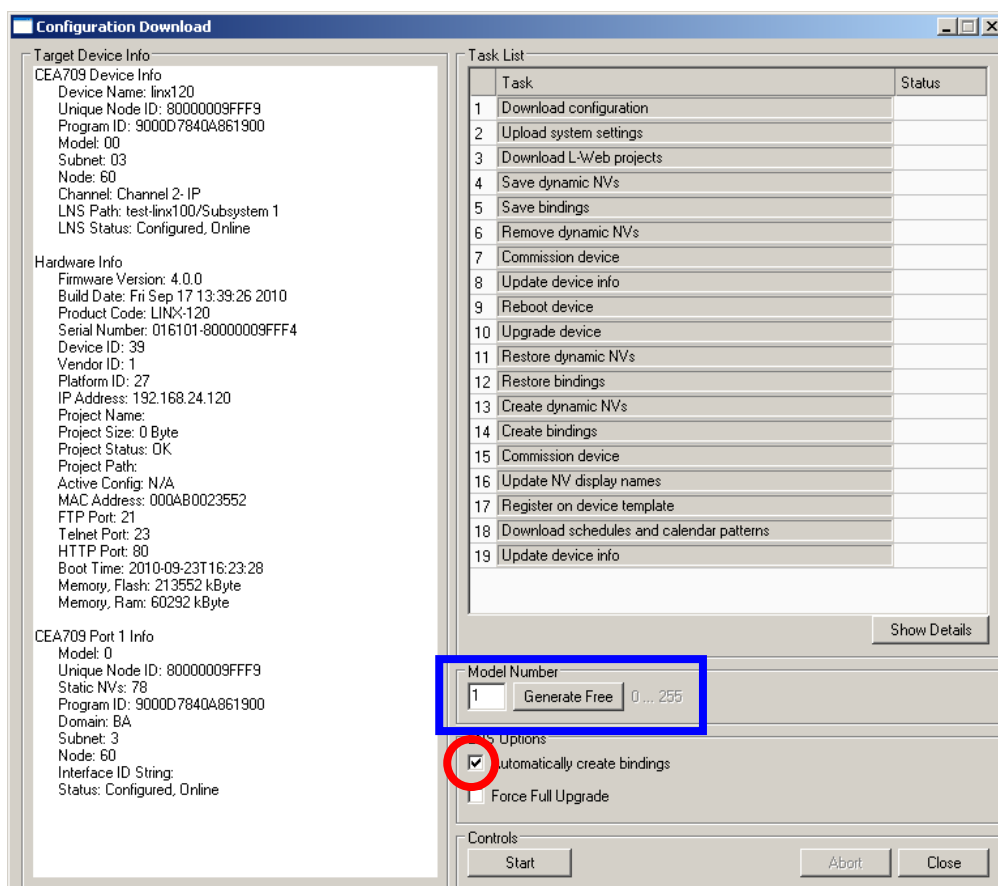

Figure 190: Configuration Download Dialog via LNS.
2. If no bindings shall be generated, deselect the **Automatically create bindings** checkbox indicated by the red circle in Figure 190.